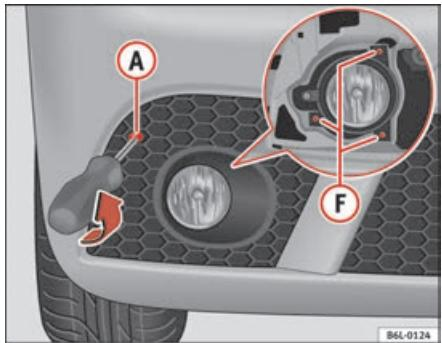

Fig. 159 Fog lights
- Undo the two fastening bolts **F** ⇒ fig. 159 and when released unplug the connector.
- Remove the grille, taking out the bolt **A** ⇒ fig. 159, carefully pull the grille on the side of the screw and release the cover.